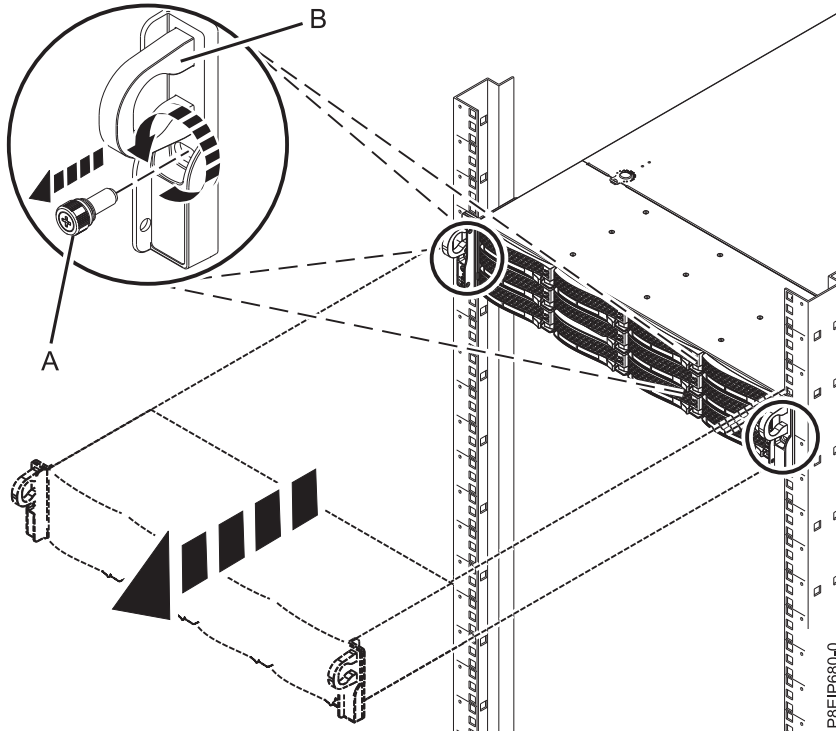

Figure 67. Removing the front screws and removing the system from the rack
4. Remove the front screws (A) that secure the system to the rack from both sides of the system as shown in Figure 67 on page 106.